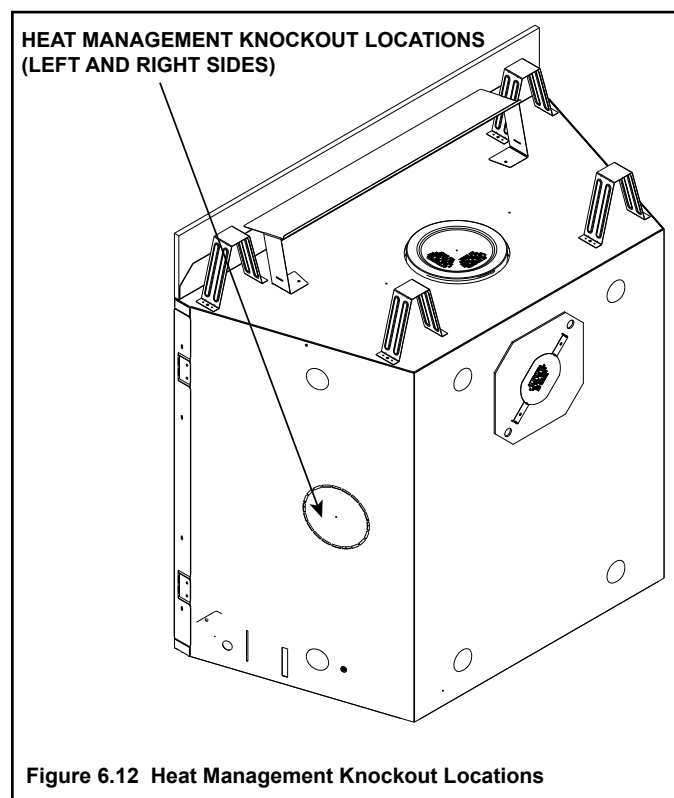

Figure 6.12 Heat Management Knockout Locations
- Remove the knockout from the fireplace and discard it. See Figure 6.12.